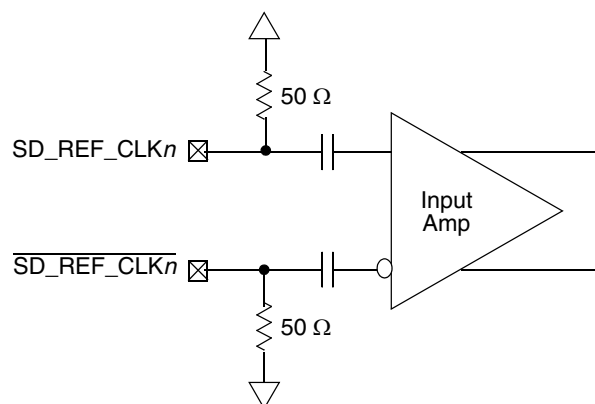

Figure 36. Receiver of SerDes reference clocks
- The SD_REF_CLKn and $\overline{SD_REF_CLKn}$ are internally AC-coupled differential inputs as shown in Figure 36. Each differential clock input (SD_REF_CLKn or $\overline{SD_REF_CLKn}$) has on-chip 50- Ω termination to SGND followed by on-chip AC-coupling.